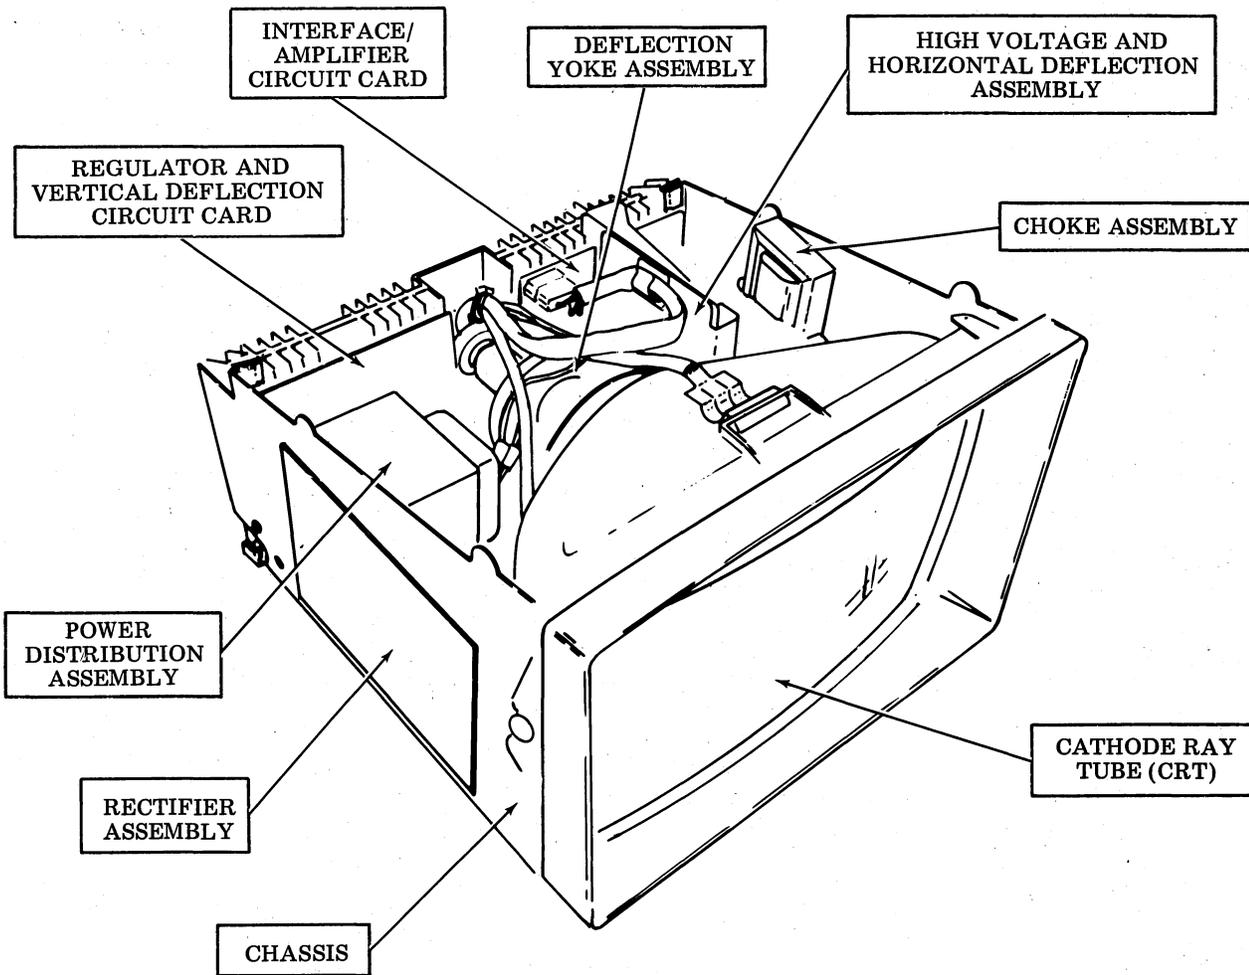
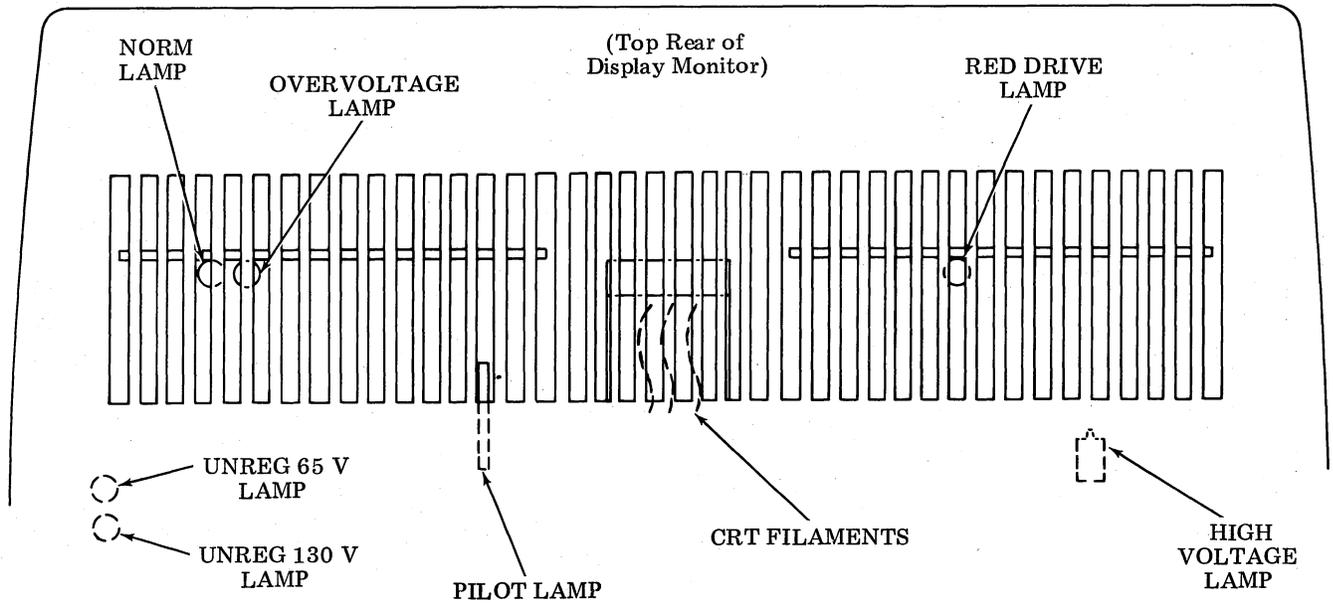

Figure 3 - DATASPEED 40 Display Monitor With Cover Removed
Figure 6 - Indicator Lamps as Seen Through Top Slots of Monitor Cover
2.01 The DATASPEED 40 display monitor consists of a metal chassis on which major components are attached (Figure 3). The chassis and components are enclosed by a cover with ventilating slots located at the top rear of the cover. Through these slots, indicator lamps (Figure 6) for trouble analysis can be viewed.
D. Indicator Lamps (Figure 6)